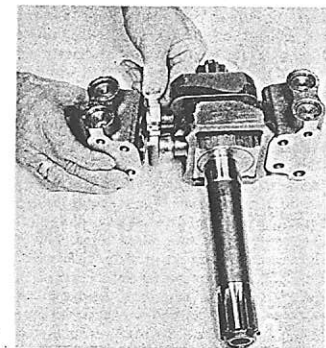

Fig. 299—Use a suitable ring compressor as shown when installing side chamber.
Withdraw side chambers (25—Fig. 297) from pistons (28). Side chambers contain poppet type inlet and exhaust valves as shown in Fig. 298. Valves and associated parts can be removed for cleaning or parts renewal after removing the retaining snap rings. Use a suitable ring compressor as shown in Fig. 299 when installing pistons in valve chambers. Tighten pump retaining stud nuts to a torque of 30-35 ft.-lbs.